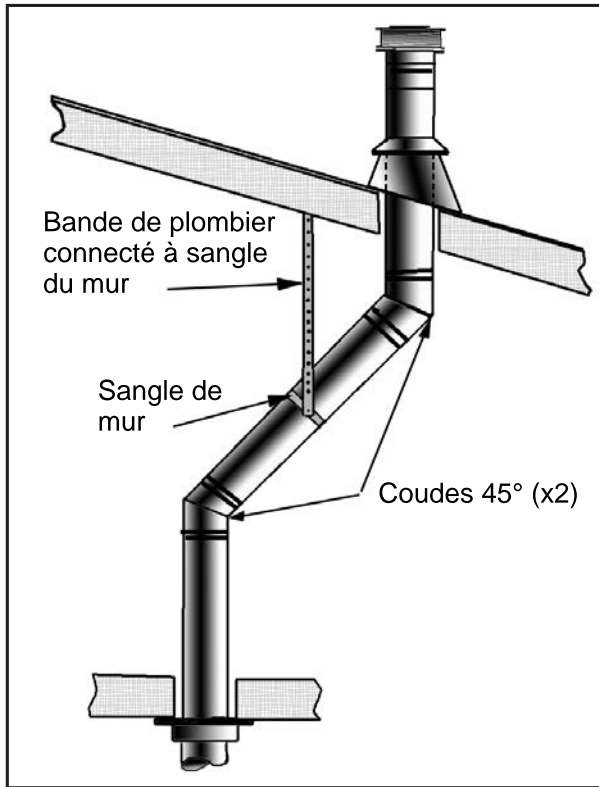
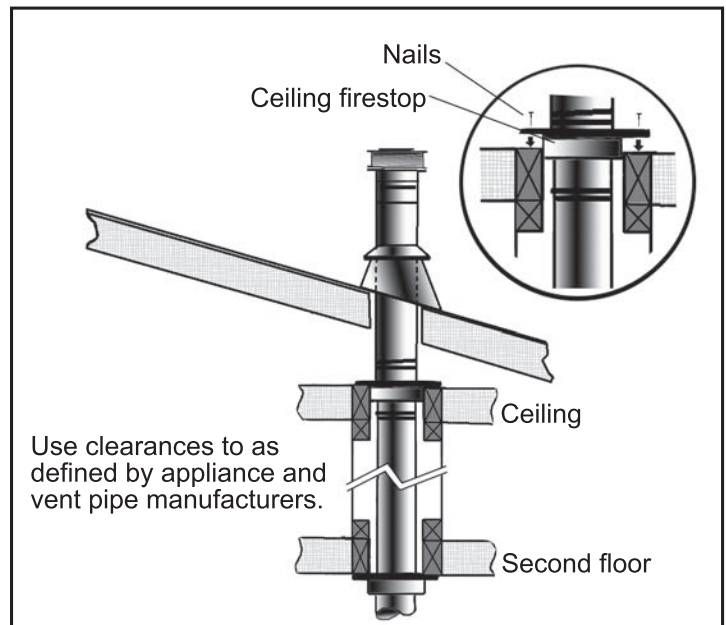

Figure 34: Use of Wall Straps.
Figure 35: Multi-Story Vent Pipe Installation
- (1) If an offset is necessary in the attic to avoid obstructions, it is important to support the vent pipe every **3' (914 mm)**, to avoid excessive stress on the elbows, and possible separation. Wall straps are available for this purpose (see Figure 34).
- (2) When ever possible, use 45° degree elbows instead of 90° degree elbows. The 45° degree elbow offers less restriction to the flow of flue gases and intake air.
- (3) For multi story installations; a ceiling firestop is required at the second floor, and any subsequent floors (see Figure 28). The opening should be framed to **10" (254 mm) x 10" (254 mm)** inside dimensions, in the same manner as shown in Figure 35.